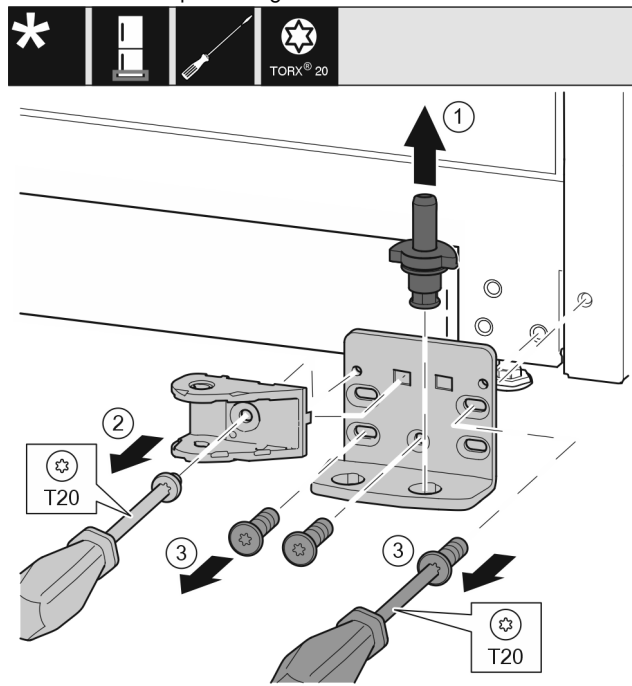

Fig. 43 *
- ▶ Pull the bearing bolt Fig. 43 (1) out upwards completely.*
- ▶ Use screwdriver to unscrew the screw Fig. 43 (2) and remove the closing damper connection.*
- ▶ Use screwdriver to unscrew the screws Fig. 43 (3) and remove the swap bearing block.*